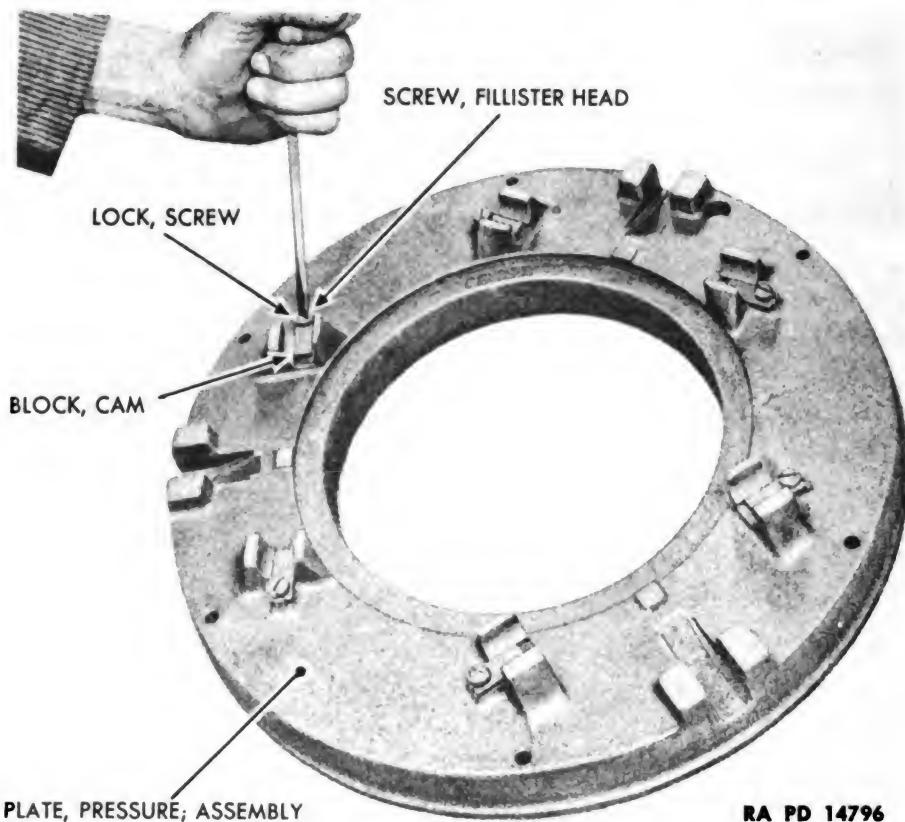

Figure 22 – Cam Block Removal from Pressure Plate Assembly
- (8) REMOVE CAM BLOCKS FROM PRESSURE PLATE ASSEMBLY (fig. 22).
(1) INSTALL CAM BLOCKS ON PRESSURE PLATE ASSEMBLY (Fig. 22)